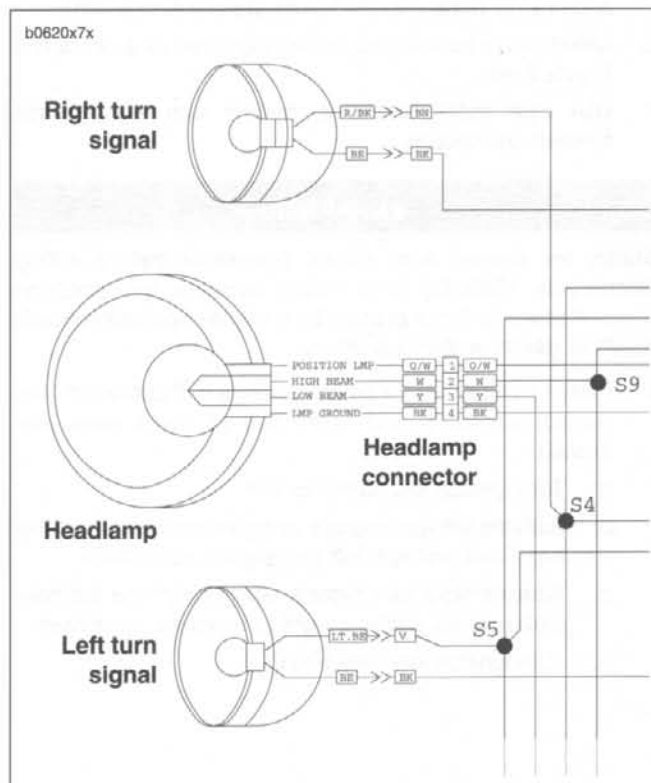
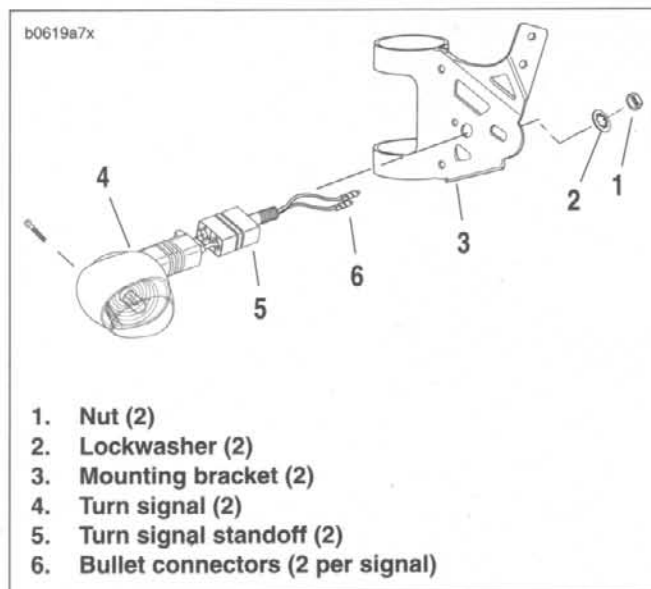

Figure 7-46. Front Turn Signal Connections
Figure 7-47. Front Turn Signals
2. See Figure 7-46. Disconnect bullet connectors on turn signal wires.
3. See Figure 7-47. Remove nut (1) and lockwasher (2) from mounting bracket (3).
4. Remove turn signals (4) and standoffs (5).
5. Pull bullet connectors (6) and wiring through hole in mounting bracket (3).
1. See Figure 7-47. Insert bullet connectors (6) through hole in mounting bracket (3).
2. Install turn signal (4) and standoffs (5) using lockwasher (2) and nut (1). Tighten to 25-28 in-lbs (2.8-3.2 Nm).
3. Attach bullet connectors on turn signal wires as shown in Figure 7-46.